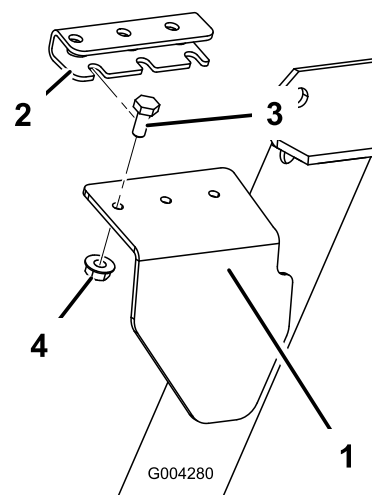

Figure 26
2. Install the new offset bracket to the frame using the three bolts (1/4 x 5/8 inch) and three locknuts (1/4 x 5/8 inch) provided (Figure 26).